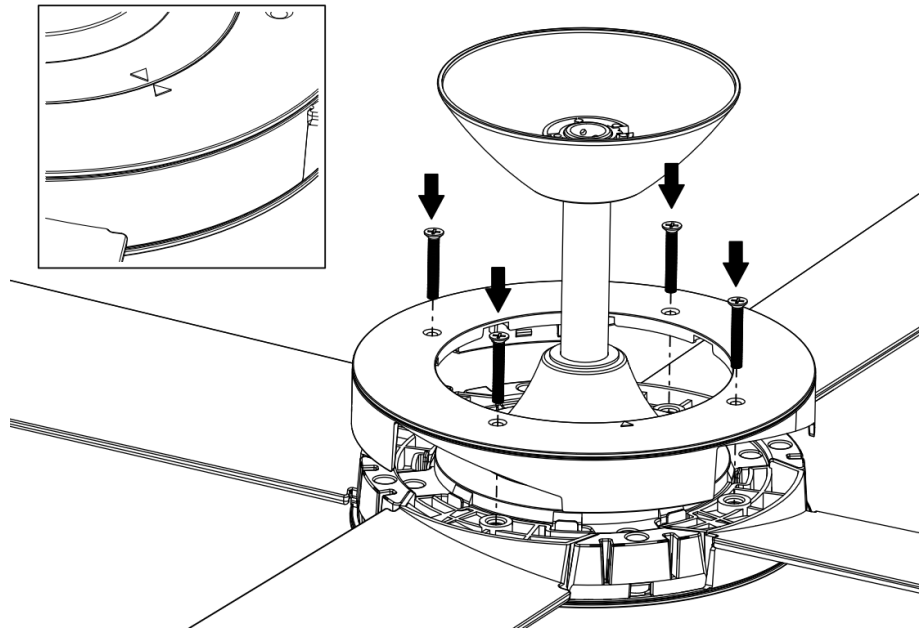

Fig. 3.3
3. Install the cover back to the motor assembly by tightening the 4 screws. (Fig.3.3)